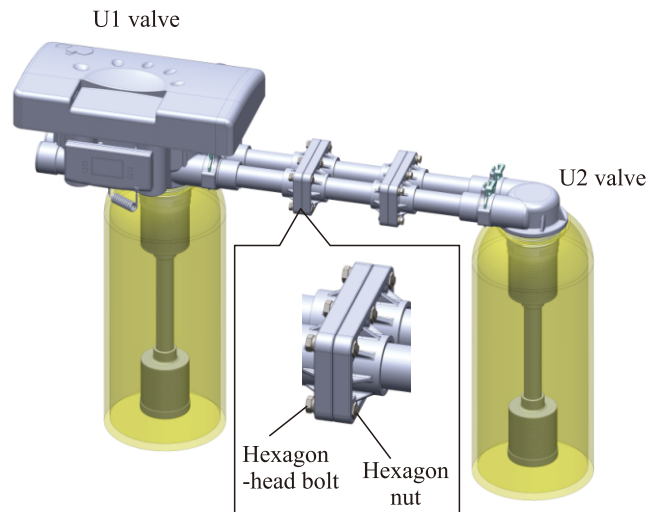

Figure 2-1-4
4. As Figure 2-1-4 shows, tighten the flange connection of connecting pipe with hexagon-head bolt and hexagon nut.